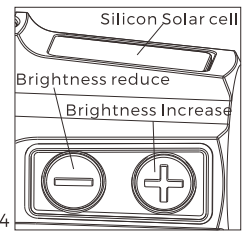

Fig 4
1. Switch on (see Fig4): Press and release either brightness button ("+" or "-") to turn on the sight.